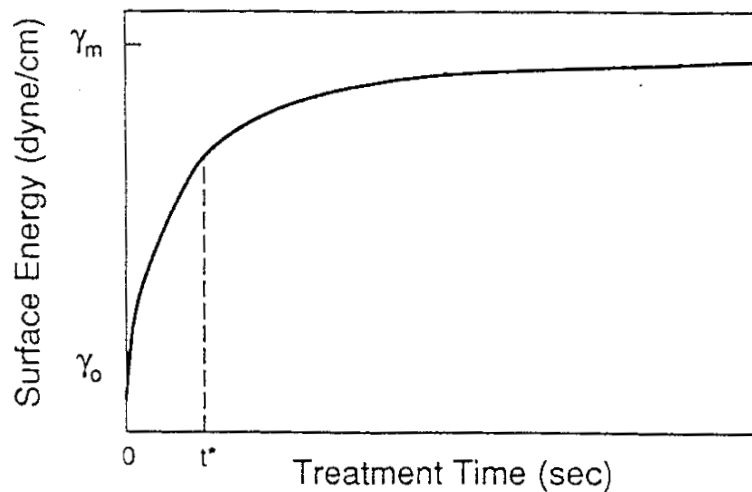

Figure 3.1 Surface Energy vs. Treatment Time
3.1.3 **Treatment Time.** The most important variable in nearly all applications is treatment time. Treatment effect, measured by an increase in surface energy, is approximately an exponential function of time as indicated in Figure 3.1. As shown, most of the treatment effect occurs quickly. The characteristic time, t^* , is determined by electrode size, power, etc. of the Model BD-80C.
- 3.1.8 **Material Treated.** See Figure 3.1. The untreated surface energy (γ_0) and the maximum surface energy obtained by corona treatment (γ_m) depend on the material. The amount by which the surface energy is to be increased must be established for each application.